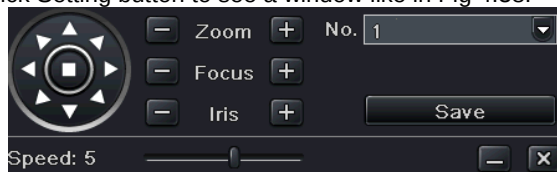

Fig 4.38 Preset - Setting
- a) In the preset interface, click Setting button to see a window like in Fig 4.38.